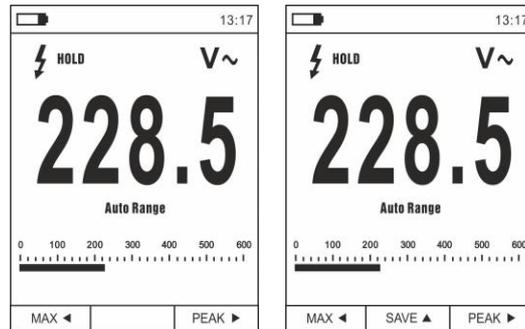

Fig. 7 Saving the value frozen on the display
1. Press key **HOLD/REL** to freeze the result. Message “HOLD” and **SAVE ▲** appears on the display (see Fig.7– right side)